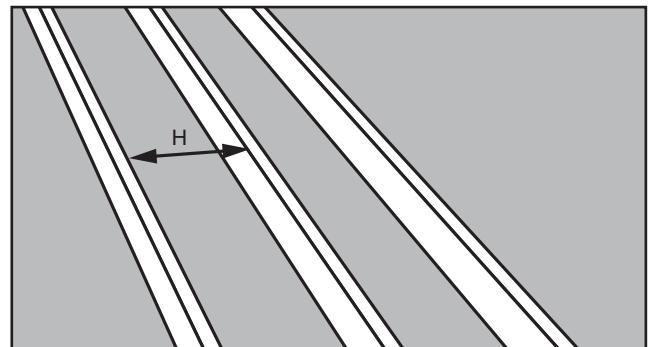

FIGURE 11
- STEP 1.** Measure the header length “H” between the joists (See Figure 11).